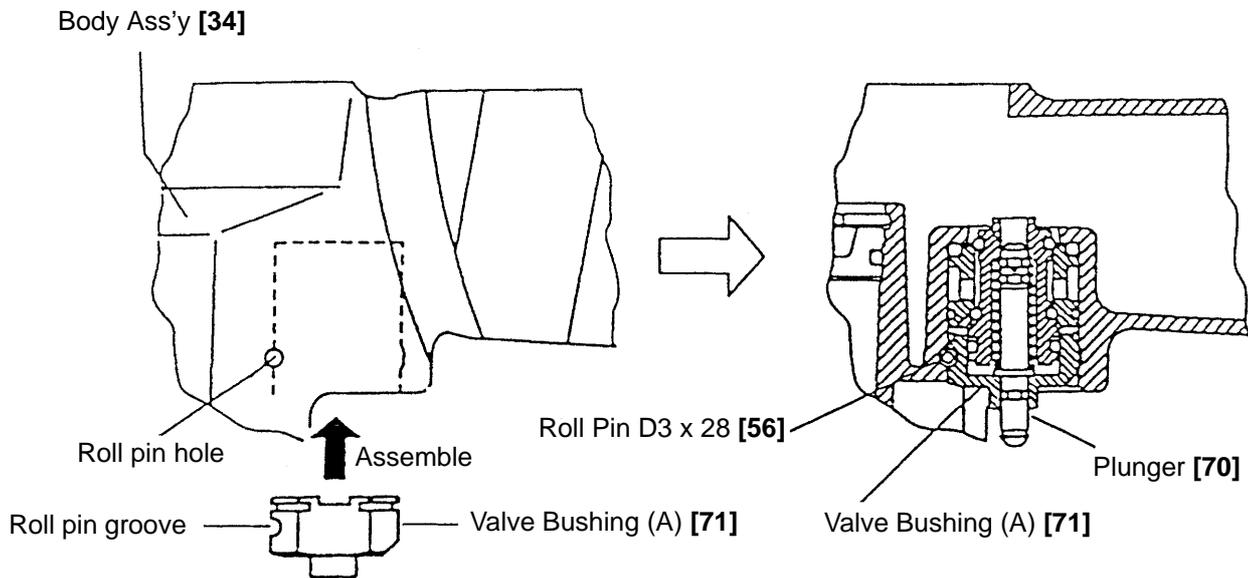

Fig. 19
- Thoroughly apply grease to the O-Ring (I.D 1.8) [69] of the Plunger [70], O-Rings [64] and [67] (S-4), (I.D 8.8) and (I.D 11) of the Valve Piston [66], and the shaft of the Plunger [70] shown in Fig. 19.
- As shown in Fig. 19, install Valve Bushing (A) [71] so that the roll pin groove in Valve Bushing (A) [71] will be aligned with the roll pin hole in the Body Ass'y [34]. First, insert the roll pin puller (3 mm dia.) into the roll pin hole. Then, upon confirming that the puller passes through the hole, drive in the Roll Pin D3 x 28 [56].